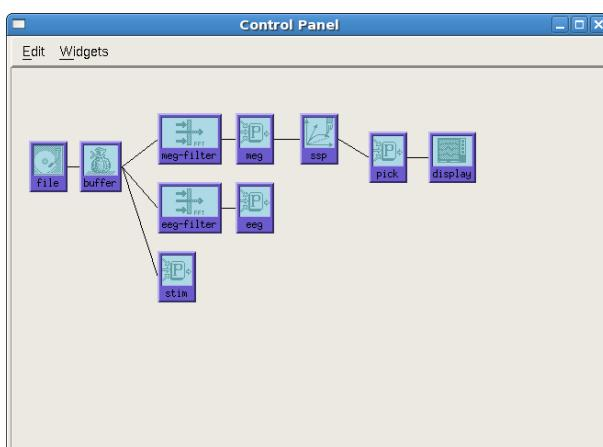

Figure 53: Link widget **ssp** in the control panel between 'meg' and 'pick'.
- Select **Displays -> Control panel (Alt-d + c)** and link widget **ssp** (Figure 53):